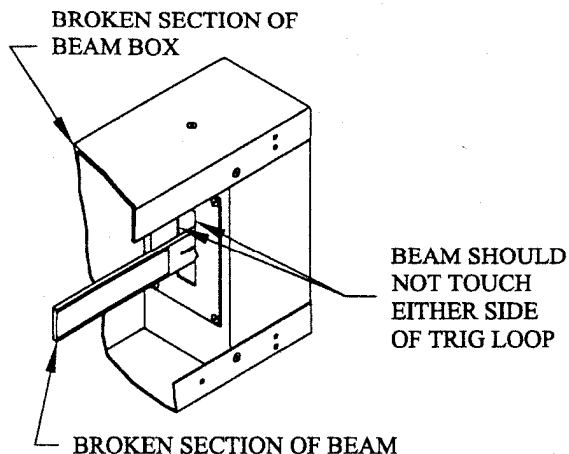

FIG. 6A
- ❑ 6) Check to make sure that the beam is not touching the sides of the trig loop. See Fig. 6A & 6B.